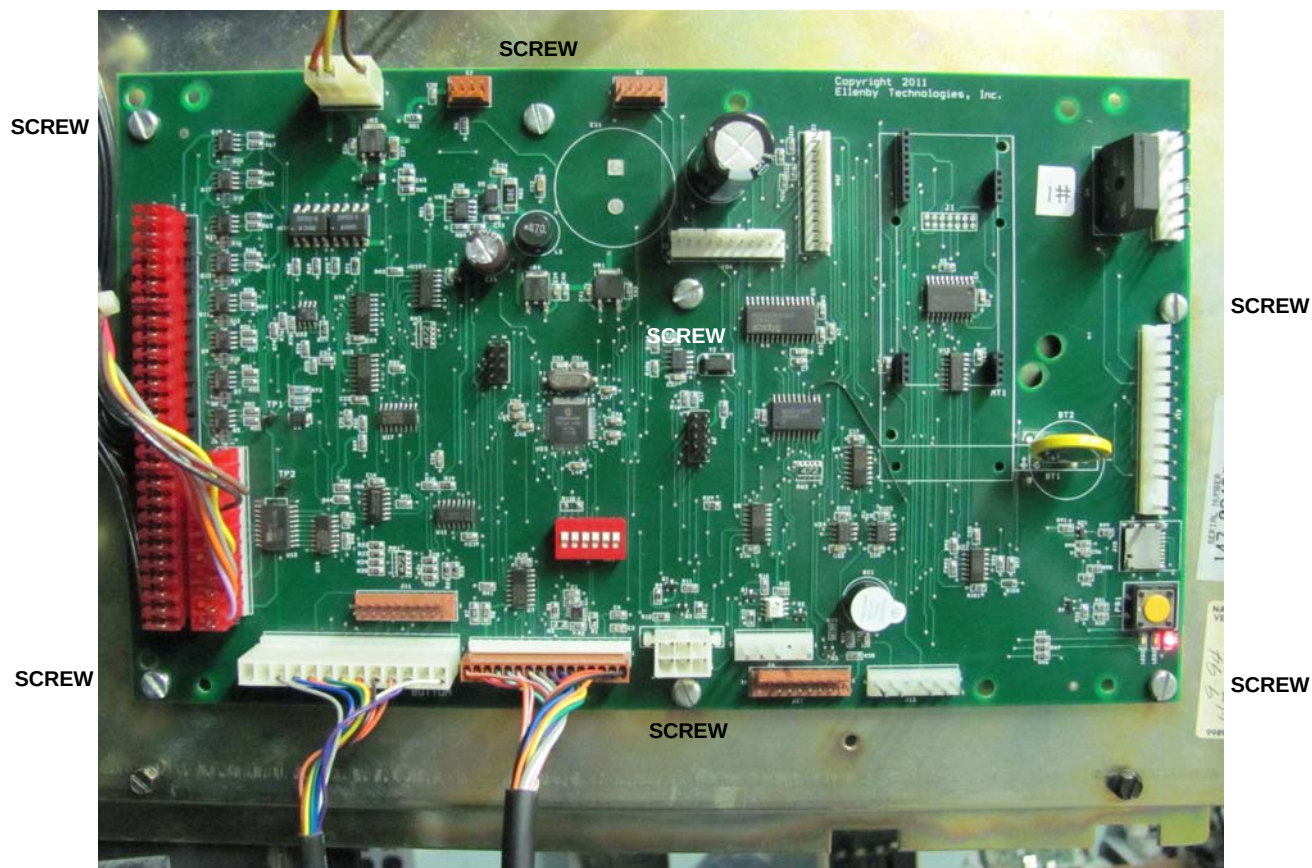

Figure 3
4. Locate the VMC in the kit. This will mount directly onto the existing standoffs using the same mounting holes. See **Figure 3** for correct orientation (board is labeled **147/148 BOTTOM** to indicate the proper direction). Use seven of the original screws for mounting.